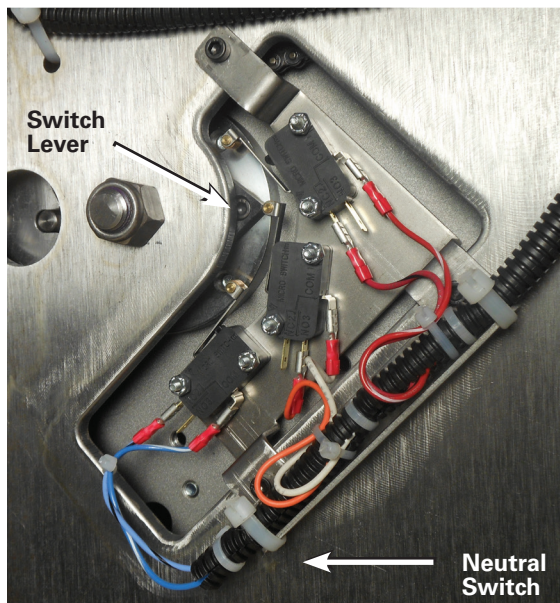

Figure 12. Neutral switch is depressed.
D. The neutral switch will be depressed with the switch lever. See Figure 12.